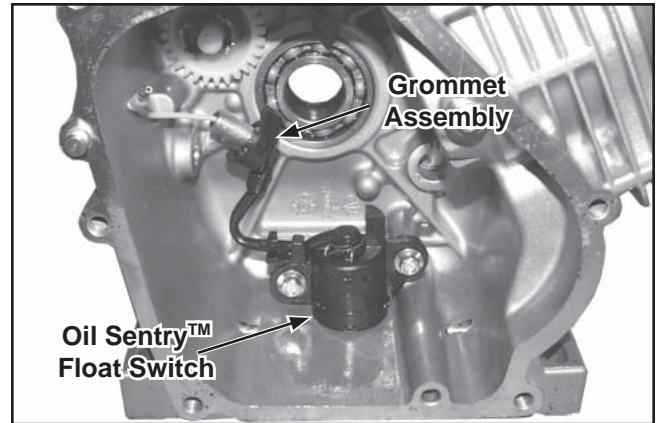

Figure 11-18. Oil Sentry™ Float Switch Mounting.
1. Mount the Oil Sentry™ float switch into the crankcase housing using two M6x18 hex flange screws and torque to 8 N·m (71 in. lb.). See Figure 11-18.
2. Route the wire lead grommet assembly through the crankshaft housing. See Figure 11-18.